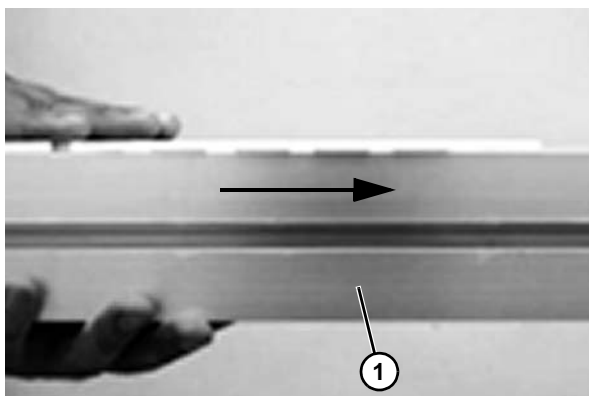

Figure 51
2. Feed the chain along the conveyor (**Figure 51, item 1**) by pulling it through the idler unit and back to the drive unit.